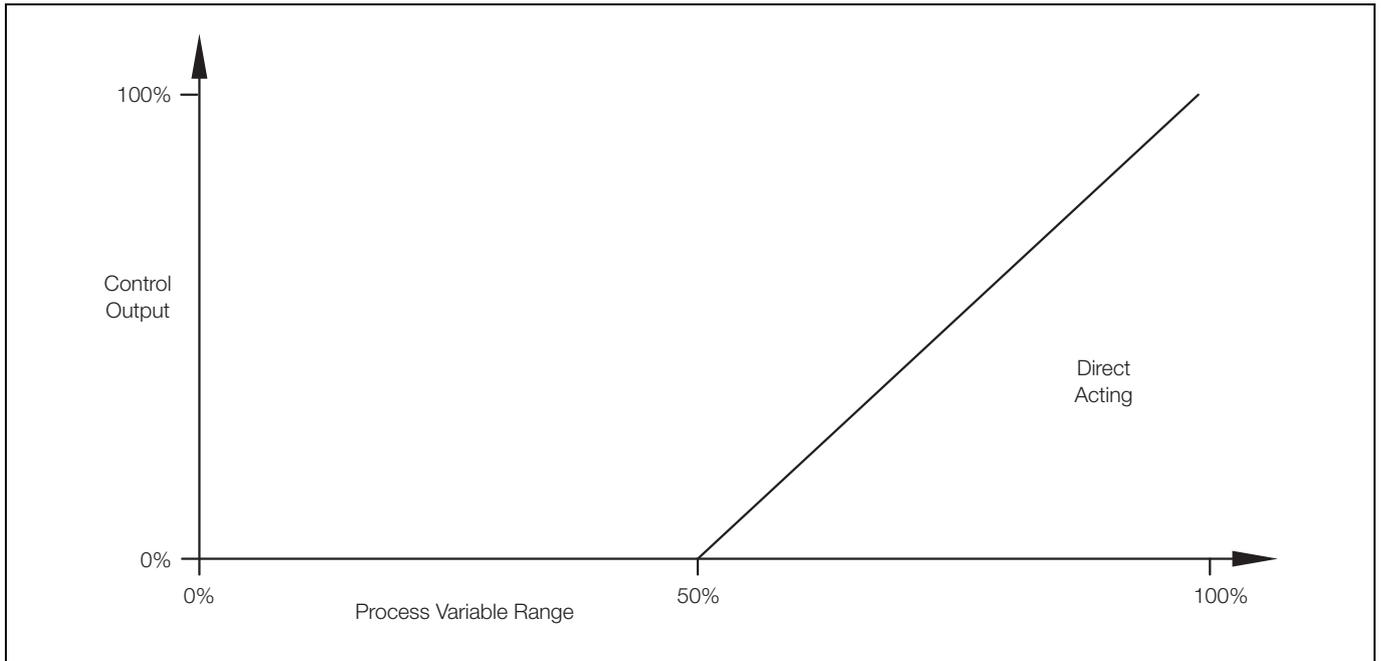

Fig. B.3 Direct Acting Single PID Control
B.1.2 Direct Acting Single PID Control – Fig. B.3